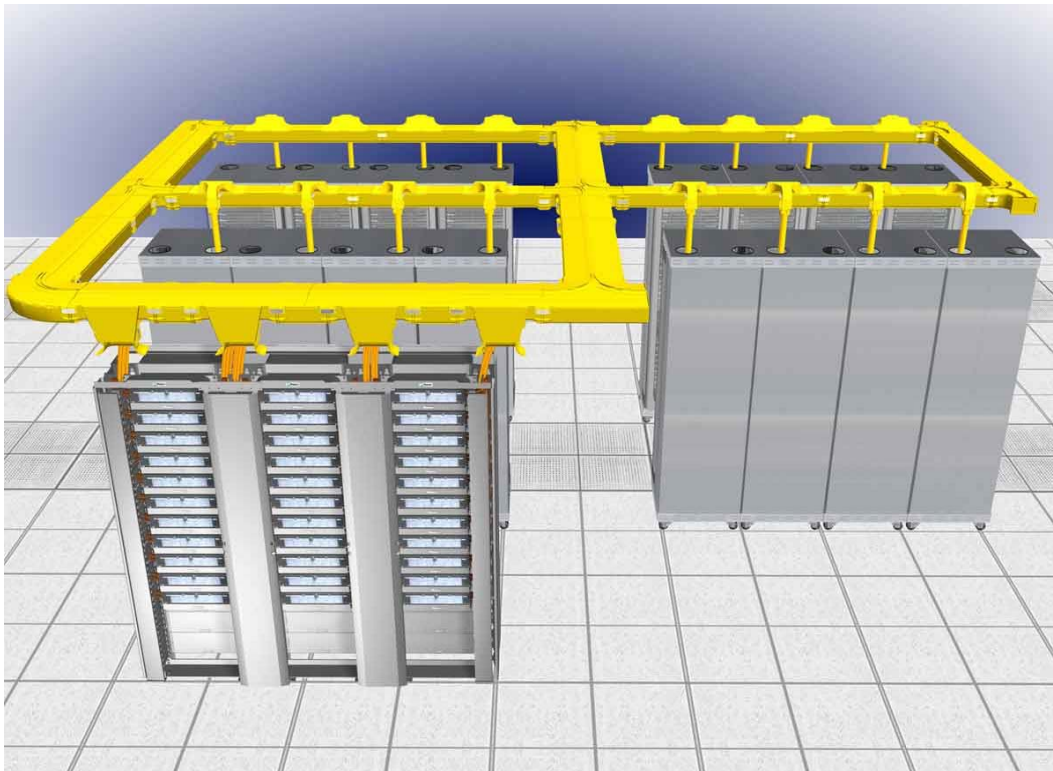

Figure 6. Example Overhead Cabling Pathway System
- Overhead pathways such as the *PANDUIT® FIBERRUNNER® System* protect fiber optic jumpers, ribbon interconnect cords, and multi-fiber cables in a solid, enclosed channel that provides bend radius control, and the location of the pathway is not disruptive to raised floor cooling (see Figure 6)